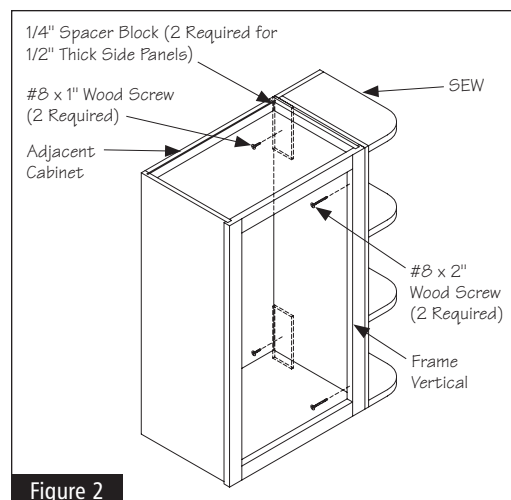

Figure 2
- 2** Using a 3/32" diameter drill bit, drill and countersink a pilot hole through each spacer block (1/2" thick Side Panels only) and side panel. Locate the pilot holes approximately in the center of the spacer blocks (1/2" thick Side Panels only). See Figure 2.
- 3** Using a 5/32" diameter drill bit, drill and countersink two pilot holes through the frame vertical of the adjacent cabinet. Holes should be centered on the inside edge of the frame vertical from front to back and should be two to three inches from the top or bottom of the vertical. See Figure 2.
- 4** Position the SEW unit into the desired location. Wood clamps are recommended to help hold the unit in place until it is secure. Attach the two #8 x 1" wood screws through the pilot holes drilled through the spacers (1/2" thick Side Panels only) in Step 2. Then attach the two #8 x 2" wood screws through the pilot holes drilled into the frame vertical in Step 3. See Figure 2.